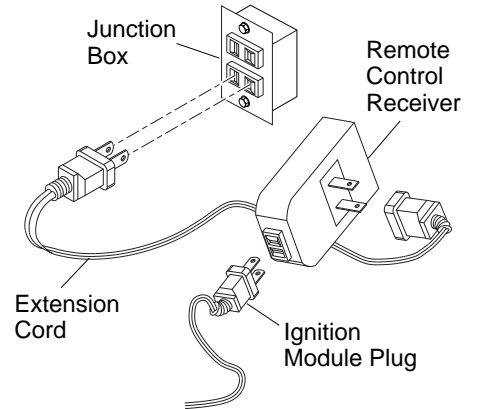

Figure 41 - Installing the WRC Remote Receiver
1. The WRC model receiver does not require a battery. The receiver can be installed by first plugging the short extension cord into the fireplace junction box. Then plug the receiver unit into the extension cord. Finally plug the ignition module plug into the receiver unit (see Figure 41).